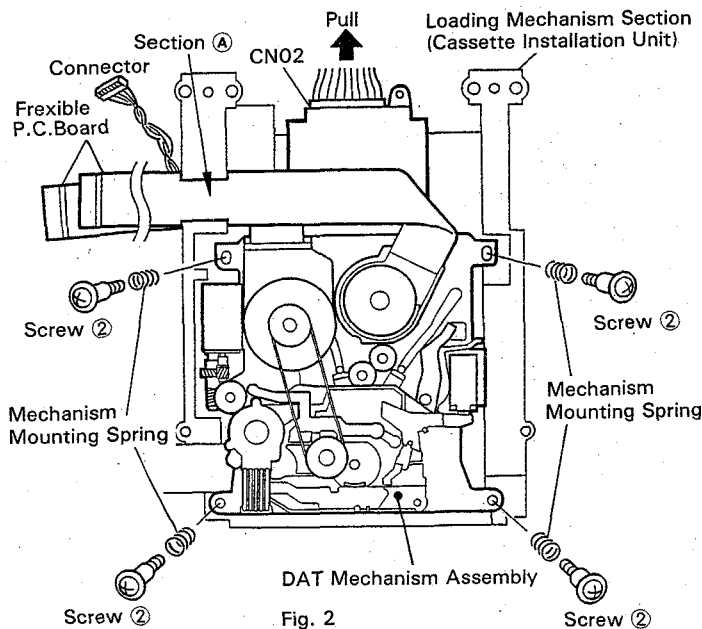

Fig. 2
4. Remove the two flexible P.C.Board and the connector wires from the slot of section A. (Refer to Fig. 2.)
5. Remove the four screws ② and the four mechanism mounting springs, and remove the DAT mechanism assembly from the cassette installation unit. (Refer to Fig. 2.)